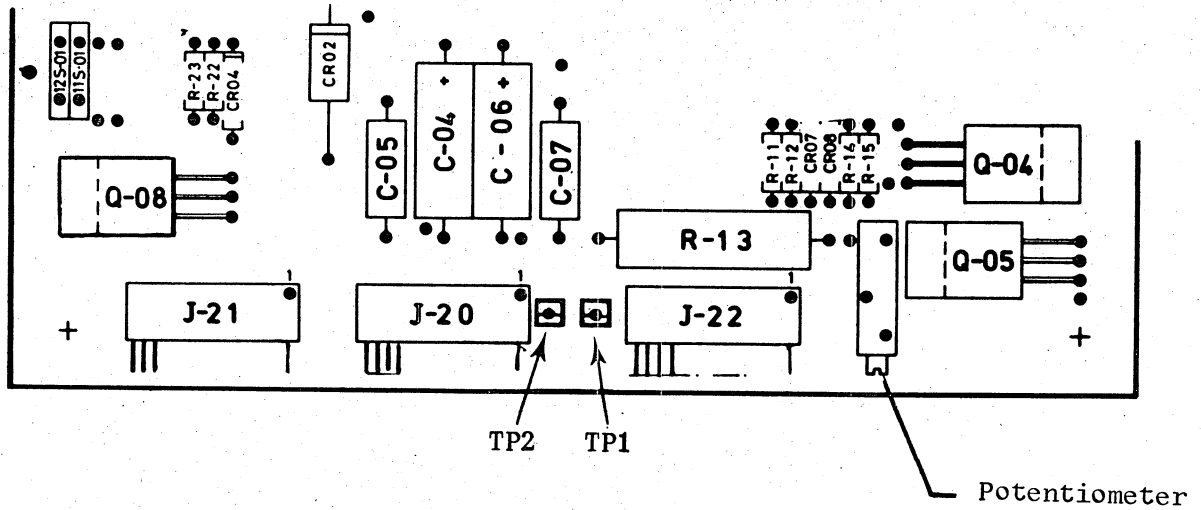

Fig. 8.14 - AFF board test points
- . Set the multimeter positive probe on TP1 and the negative one on TP2 (see Fig. 8.14).